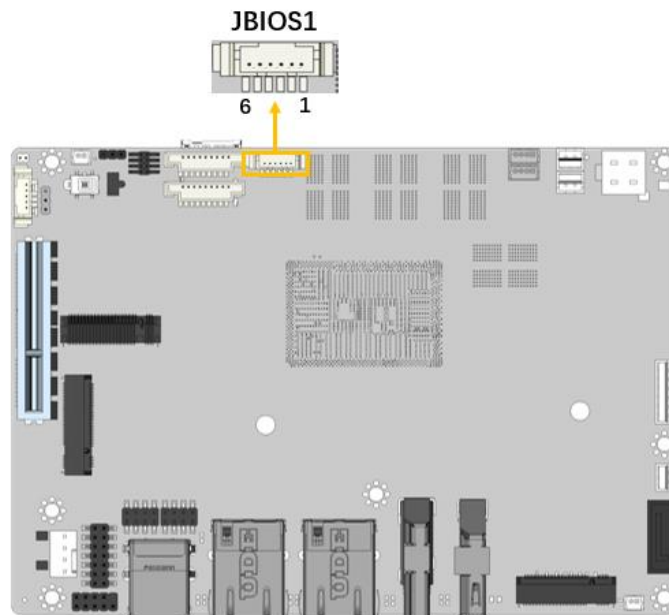

Figure 3-20: Flash SPI ROM Connector Location
- CN Location:** See Figure 3-20